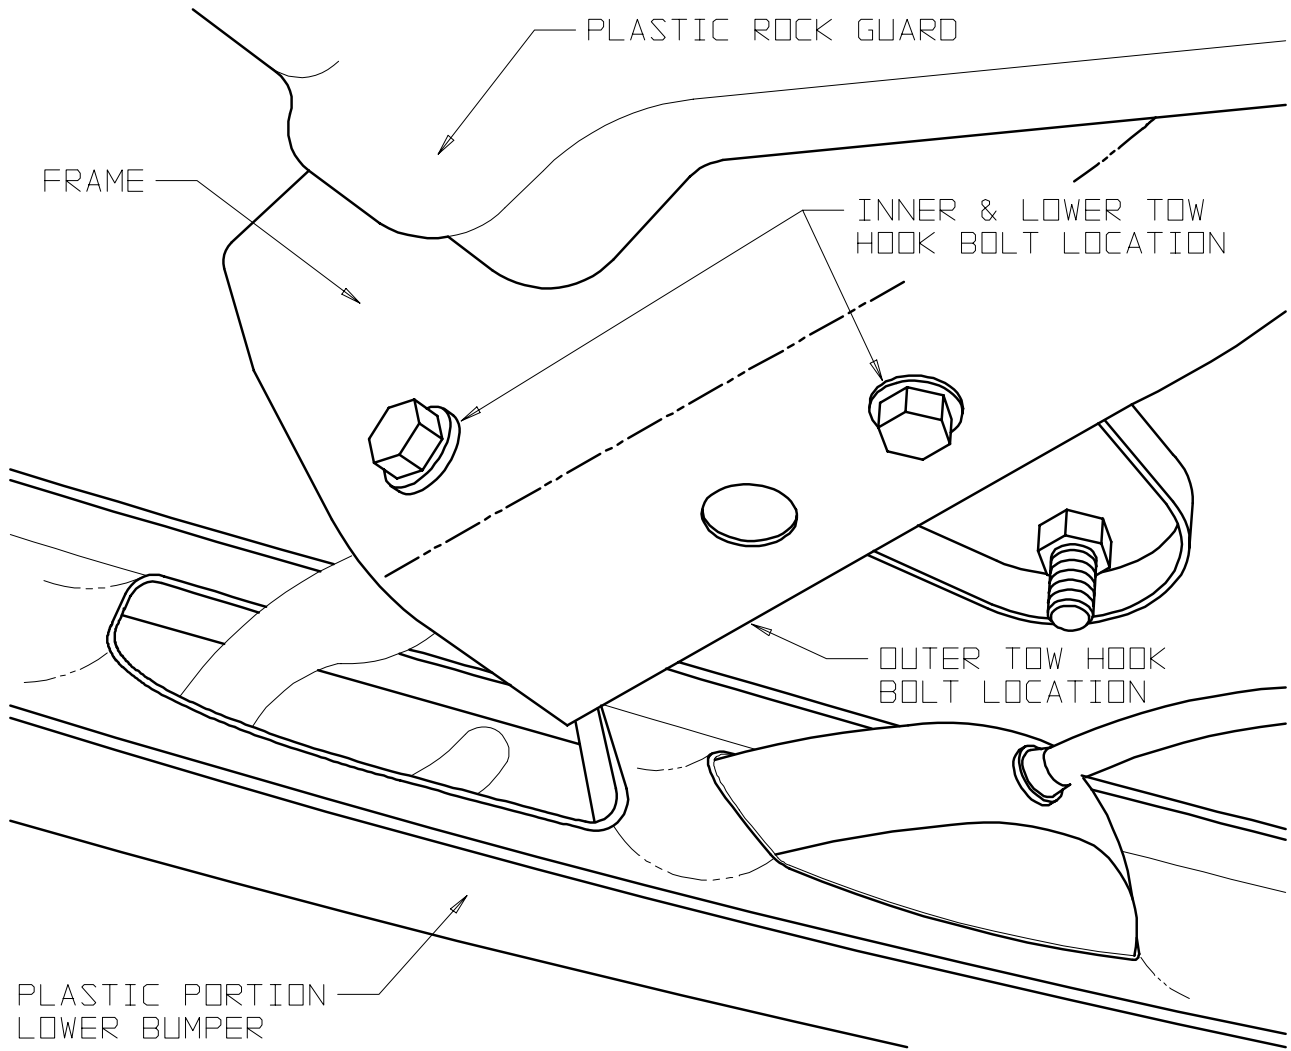

FIGURE 5
2. Remove the lower and inner tow hook bolts, then loosen the outer tow hook bolt so the tow hook may move freely as shown **Figure 5**, both sides.